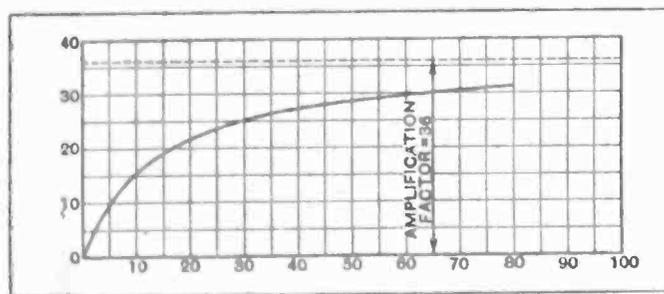
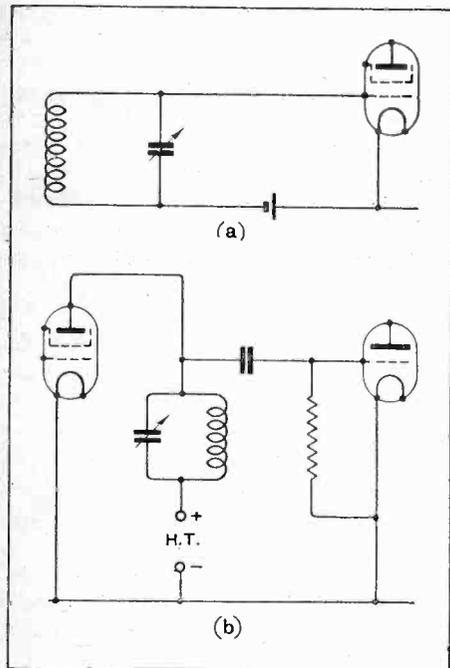

Fig. 1.—Calculated voltage amplification obtained for a valve with  $\mu = 36$  and  $R_a = 13,400$  ohms for various values of resistance in the anode circuit.
Fig. 2.—Where to look for losses in tuned circuits.
The voltage amplification obtained with various values of resistance in the anode circuit has been calculated from equation (1) for the same valve as treated throughout. These figures are plotted as a graph in Fig. 1 and enable one to see at a glance how the voltage amplification is determined by the value of the series resistance. When the anode resistance is made equal to 67,000 ohms, or five times the A.C. resistance of the valve, the voltage amplification is 5/6 of the amplification factor, being 30.
The curve of Fig. 1 applies only to the particular valve cited as an example, and so Fig. 2 has been drawn giving the voltage amplification as a percentage of the amplification factor, and the scale on the horizontal axis gives the ratio of the added resistance in the anode circuit to the A.C. resistance of the valve. This curve is applicable to any valve; from it we see that to obtain amplification equal to 90 per cent. of the amplification
Fig. 2.—Curve showing how the voltage amplification, expressed as a percentage of the amplification factor of the valve, depends on the ratio of anode resistance to A.C. valve resistance. This curve applies to any three-electrode valve.
As a beginning we may take the grid circuit of an H.F. amplifying valve (Fig. 2(a)) and see where matters may be improved. First and foremost comes the coil; ignoring all questions of high-note loss and stability, a reduction of the losses due to this component is most likely to be helpful. The physical size of an inductance should be a measure of its "goodness," but this is not always so, and the possibilities of making a better coil to occupy the same space should be investigated if it is found impossible to accommodate a larger winding. If coils of greater size—and consequently with a more extended external field—can be used, one is faced with the probability that more extensive inter-circuit screening will be called for.
Another glance at Fig. 2 (a) shows that the remaining component connected across the tuned circuit—and therefore capable of absorbing energy from it—is the valve; to do anything to it, short of drastically replacing an indifferent specimen or removing the cap, is beyond our powers. The latter expedient is hardly likely to appeal except to the most enthusiastic searcher after efficiency. The valve-holder must not be forgotten, and that a shilling or so may be well spent in buying a replacement that is designed to avoid any unnecessary losses.
A tuned anode intervalve coupling circuit is susceptible to the same treatment as a grid circuit. Indeed, it stands in that relationship with regard to the succeeding valve. This point, not always fully realised, is made clear in Fig. 2 (b), where the conventional circuit is drawn in a rather unconventional way.